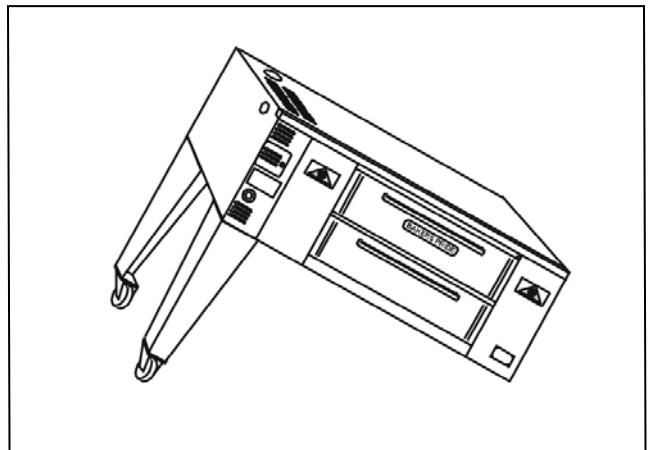

Figure 5
- Using proper lifting equipment, lower the oven down so that the two bolted legs rest on the floor (See Fig. 5).